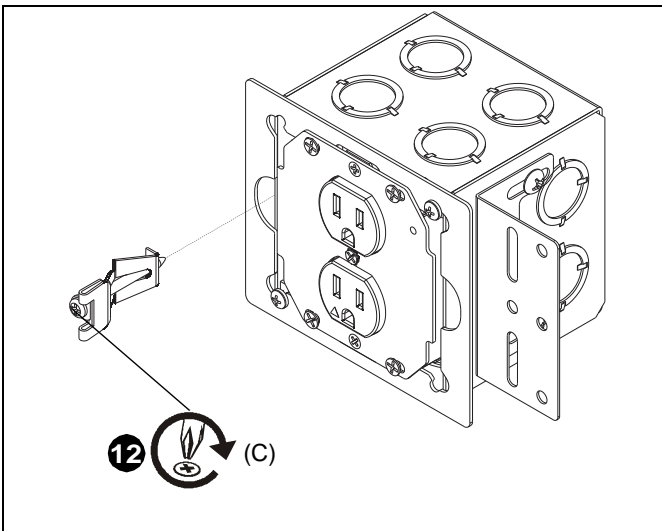

Figure 14
11. Install one clip (C) onto opposite side of EGX-SF2 from where the new work clip is installed. (See Figure 14)
12. Tighten screw on the drywall clamp so that it is locked in place against the drywall, and not laying flat against the EGX-SF2. (See Figure 14)